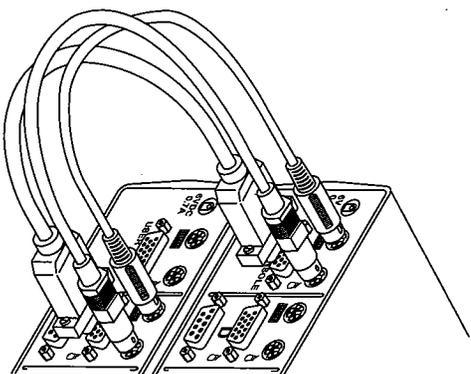

Figure 3-5. Cascade: Cable interconnection.
- Plug the other end of the PS/2 keyboard cable into the User Console  connector on your Personal ServSwitch expansion unit. Plug the other end of the PS/2 mouse cable connector into the User Console  connector. Plug the other end of the video cable into the User Console video connector. See Figure 3-5 on the next page.